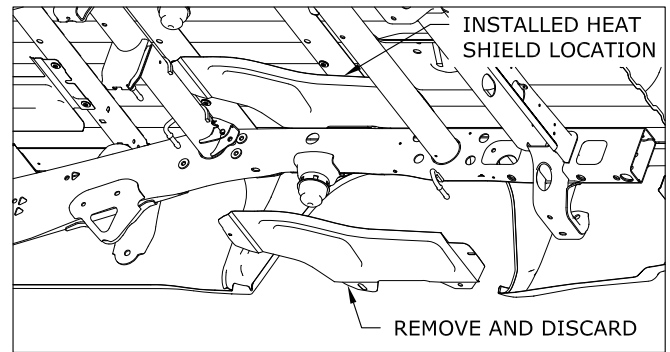

Figure A2: View Under Bed Looking at Heat Shield Removal Area
5. **Remove heat shield.** Locate and remove the heat shield directly over the exhaust between the two bed crossmembers that are above the rear axle, see Figure A2.